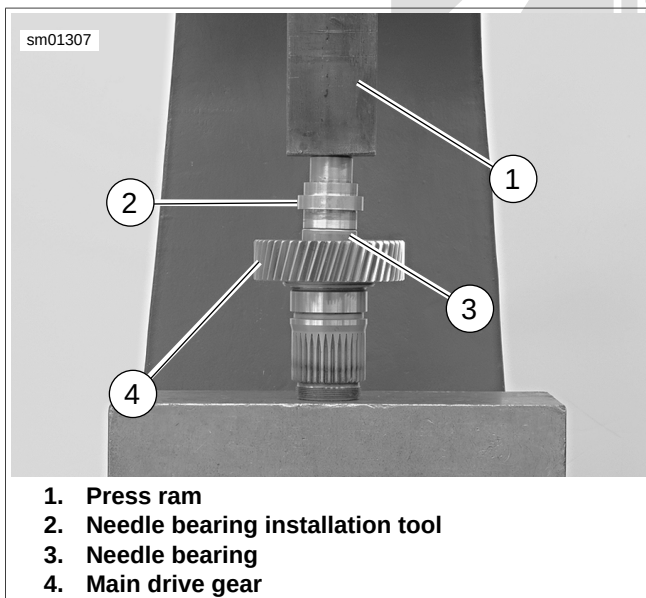
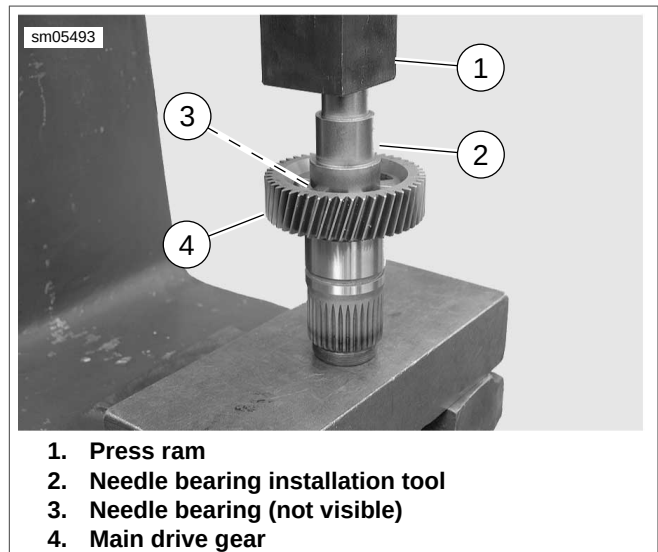

Figure 5-76. Pressing Inner Needle Bearing Assembly into Main Drive Gear: XL Models
Figure 5-77. Pressing Inner Needle Bearing Assembly into Main Drive Gear: XR Models
1. See Figure 5-76 or Figure 5-77. Place main drive gear (4) on press bed with gear end facing up.
2. Place needle bearing (3) squarely into end of drive gear with lettered side of bearing facing up. Always press on lettered side of bearing to install. Insert the appropriate installation tool (2) with end stamped "INNER" facing needle bearing.